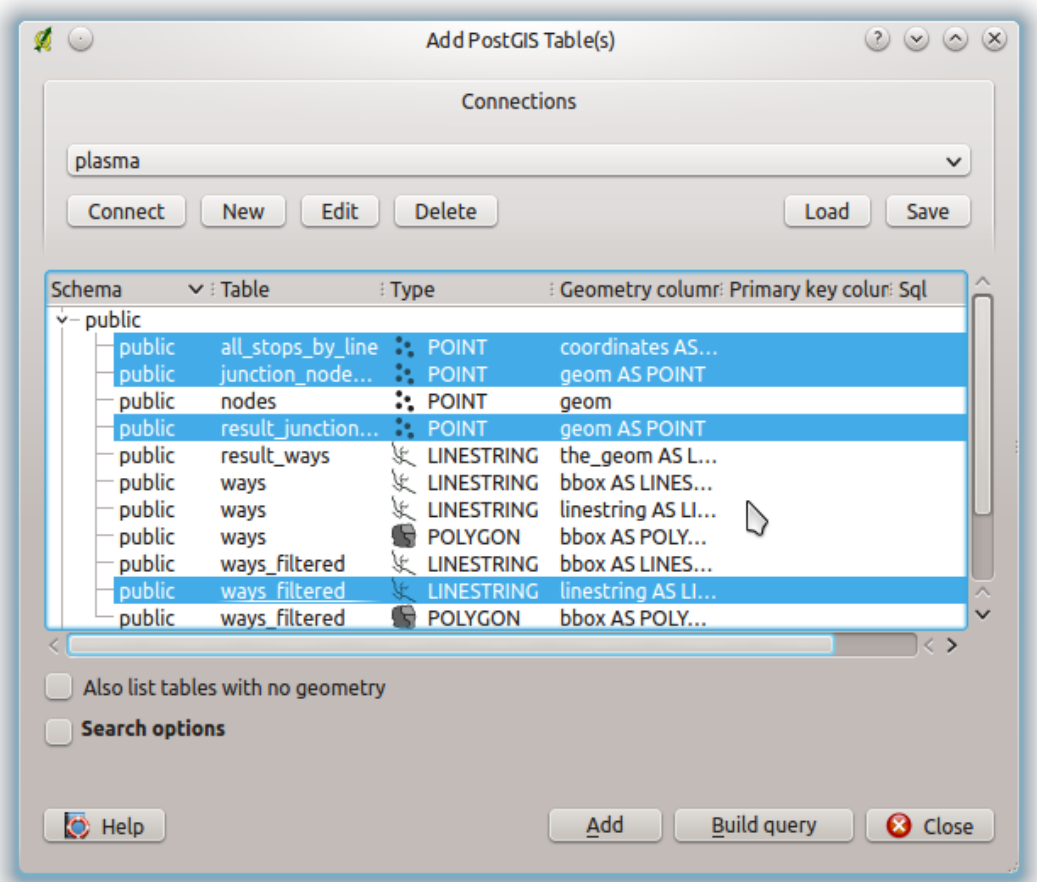

Figure 5.11: Select the data that you want to visualize.
- Select the data that you want to visualize (see Figure 5.11)